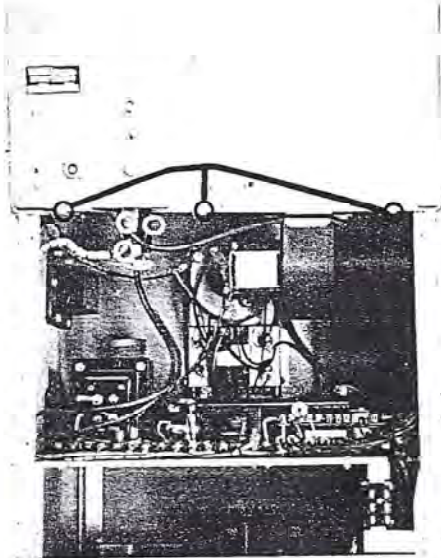

Figure 4. Rear View of the 3K-A Power Supply
- 5 After the power supply rear panel is taken off loosen the three screws holding the RF deck to the power supply section (see Figure 4).
- 7 Unscrew the high voltage connector, disconnect the filament connector, and disconnect the 11 pin metering control plug from the bottom of the RF deck (see Figure 4)
- 3 Disconnect the two blower wires from the terminal strip (positions 4 and 5) (see Figure 4).